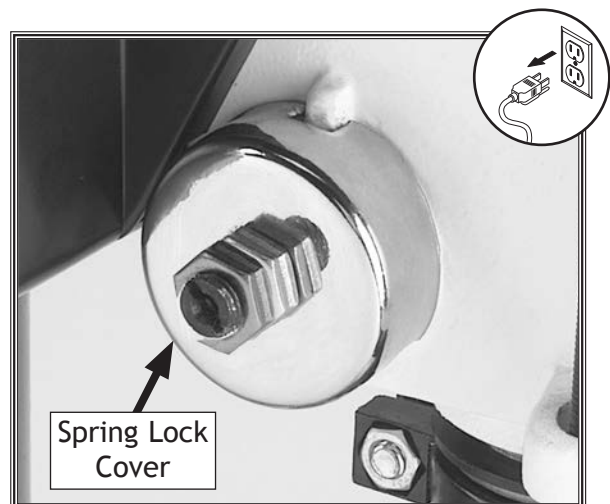

Figure 57. Location of spring lock cover.
2. Wipe off any oil on the spring lock cover so it will not slip in your fingers when you hold the cover from spinning (see Figure 57).
11. Hold the cover nut and tighten the jam nut against the cover nut (see **Figure 57**).